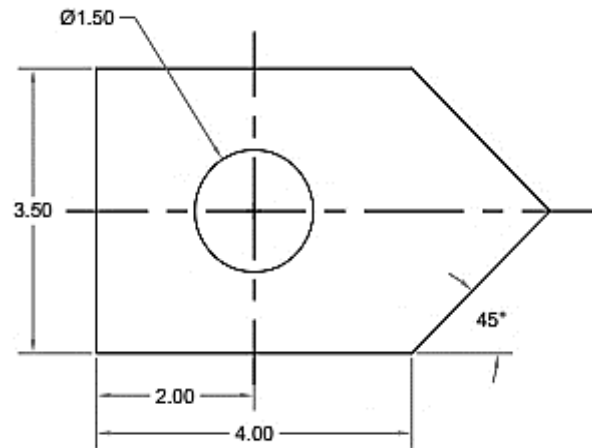

Figure 2
11. **Figure 2** shows one view of an object. Using AutoCAD software: